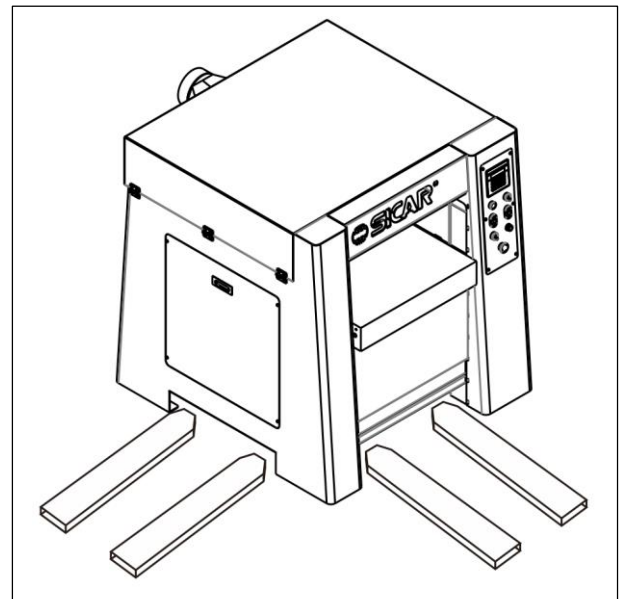

FIG.4.2
Lifting and handing should only be carried out by skilled personnel specially trained to execute this kind of operations. During loading and unloading, avoid knocks to prevent damages to persons and things. Make sure no one is standing under the overhung load and/or within the bridge crane working range during machine lifting and handing. Lifting may be carried out by bridge crane or self-propelled lift truck. Before starting the maneuvers, free the machine of all the parts used for transport or Packaging that have remained on the machine. Check that the capacity of the lifting equipment is adequate for the gross weight of the machine indicated Fig.4.2.
-As Fig.4.2. Indicated: Insert forks into the bottom of the frame assembly ensuring that these are wedged against the back of the rear feet.